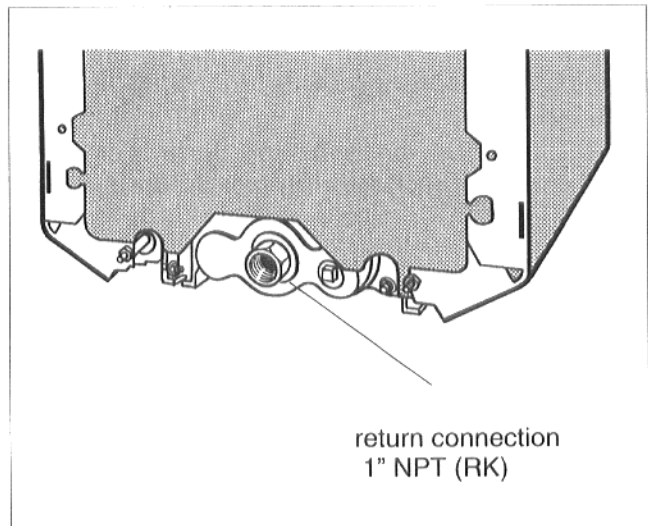

Fig. 9
Always connect the heating return (RK) to the return connection and seal (Fig. 9).